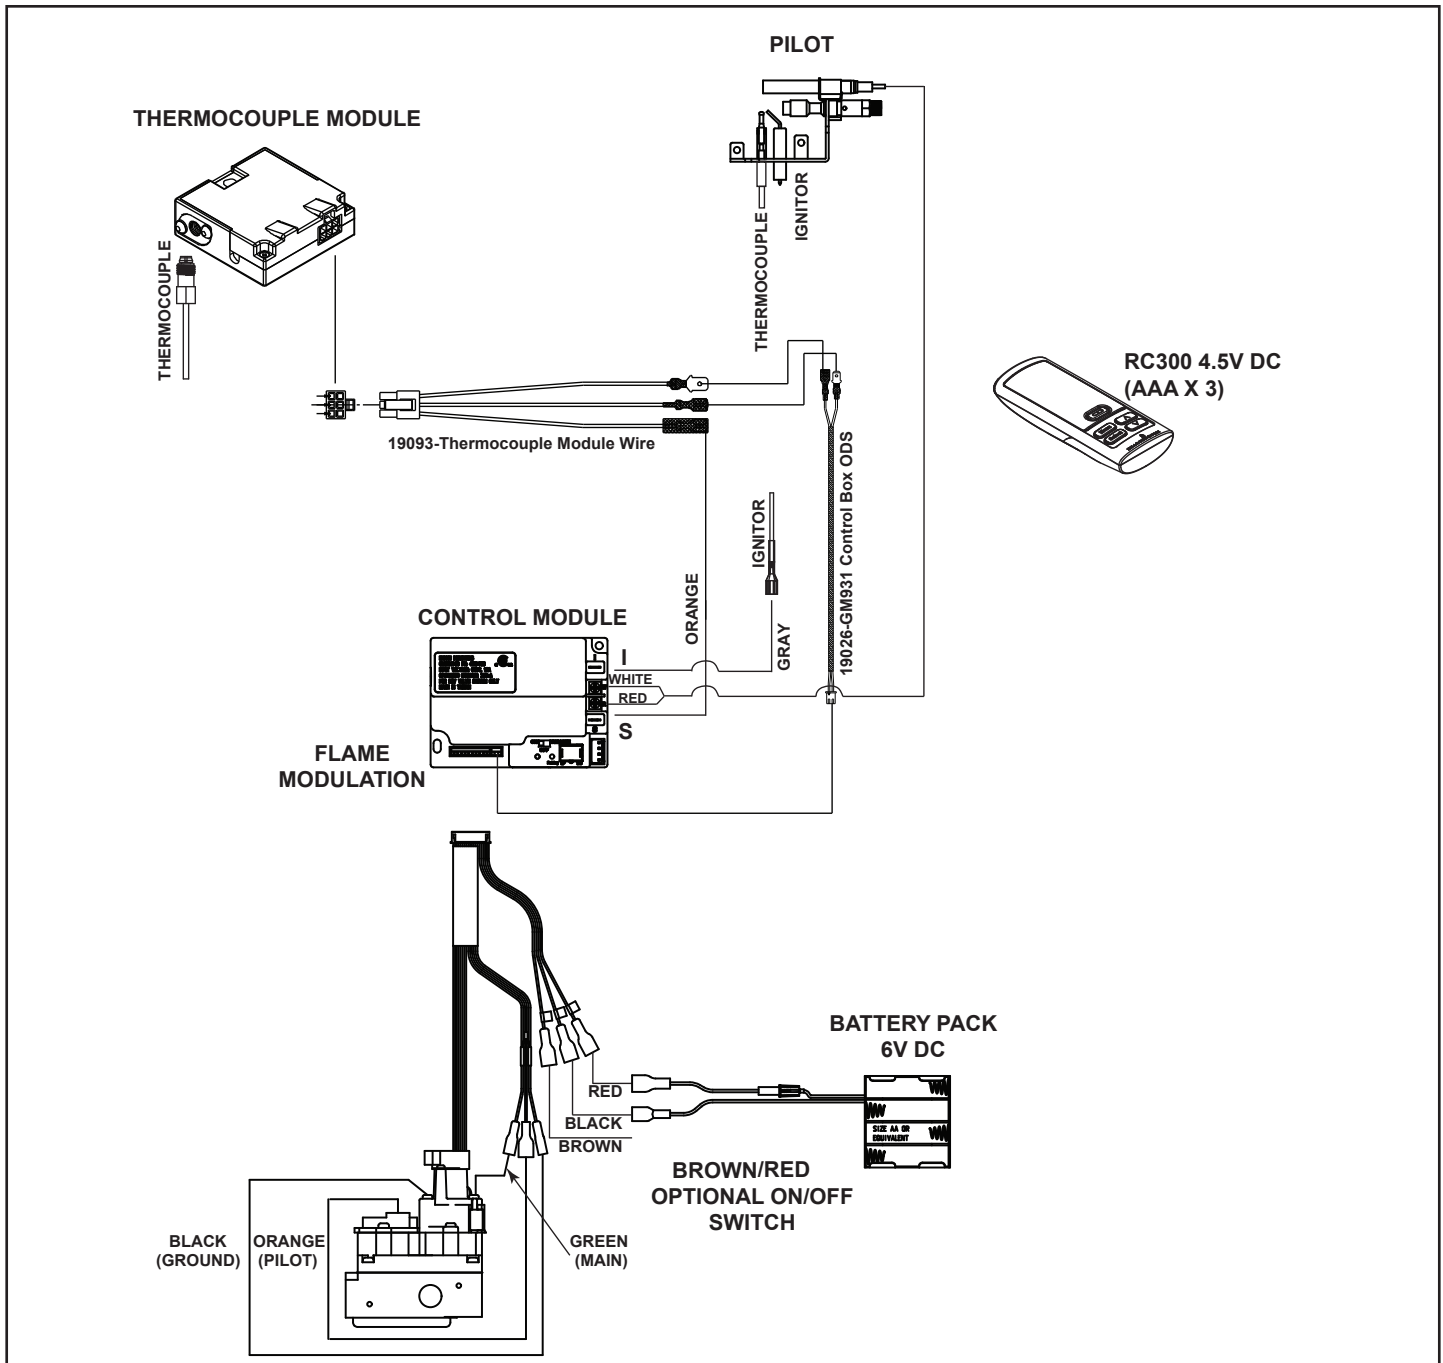

Figure 5.4 Intellifire™ Plus ODS Wiring Diagram (Battery Only)
- Refer to Figure 5.4, IFP ODS Wiring Diagram.